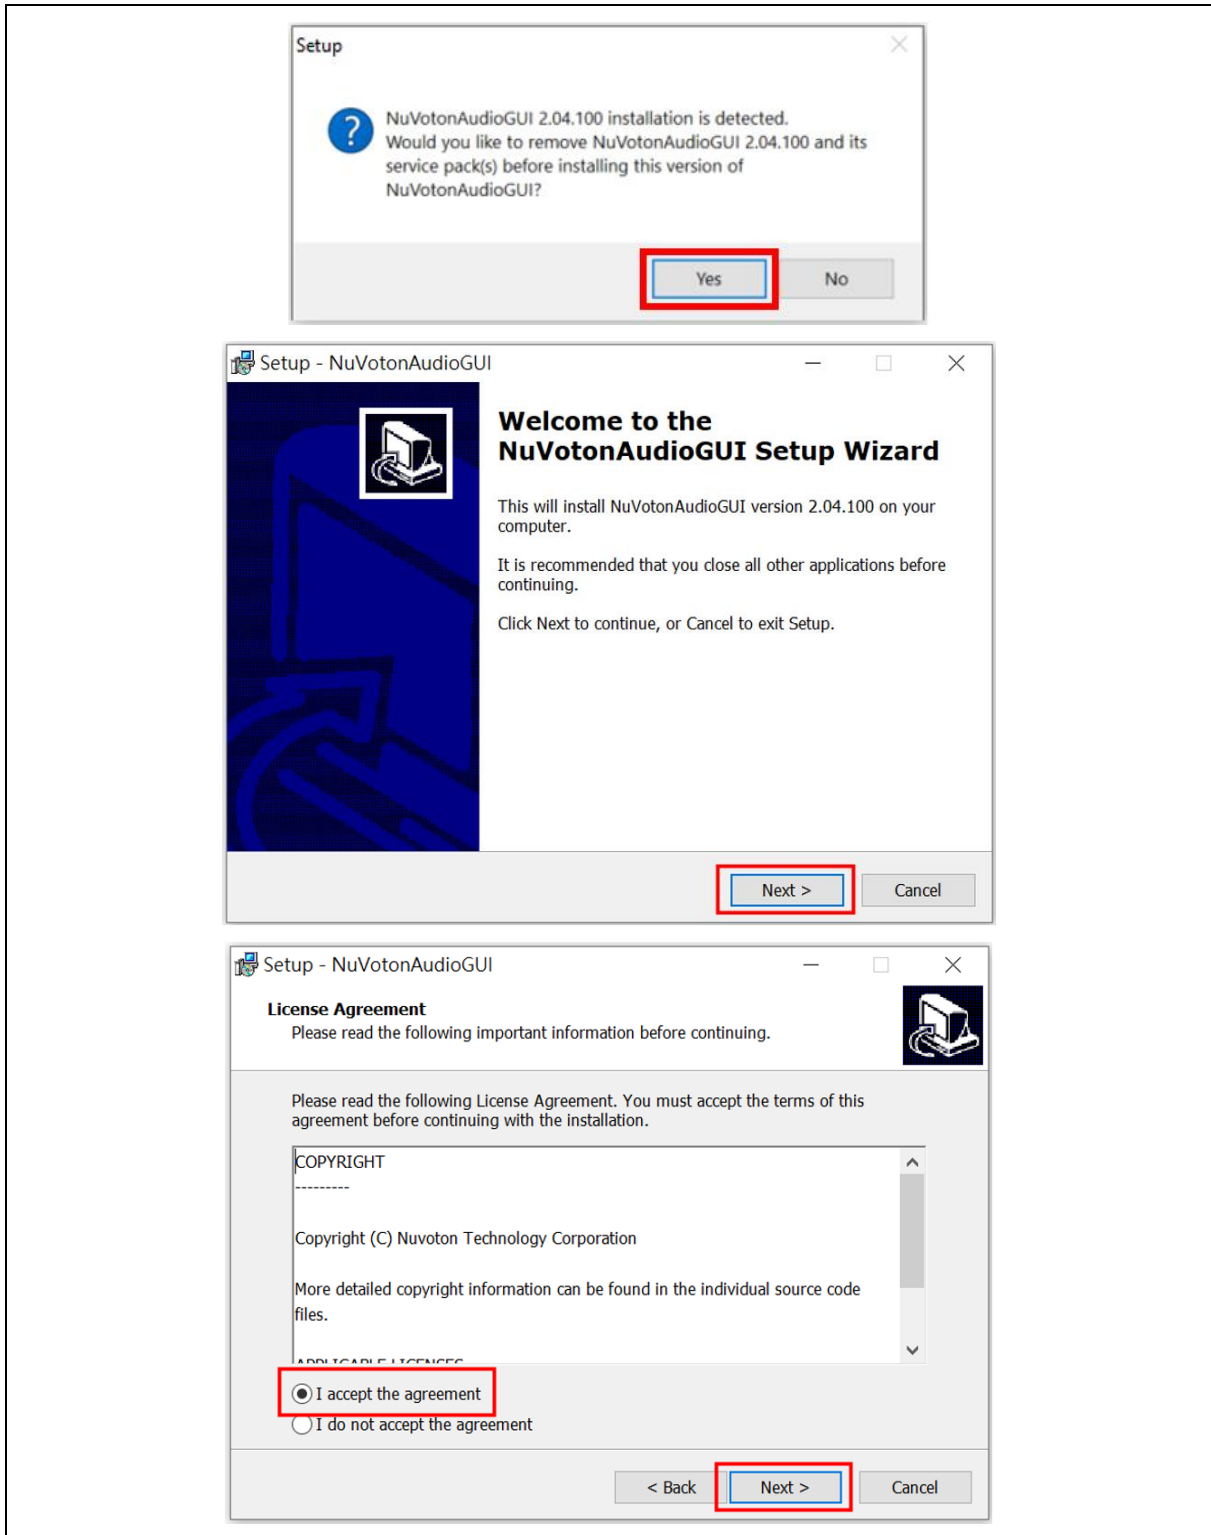
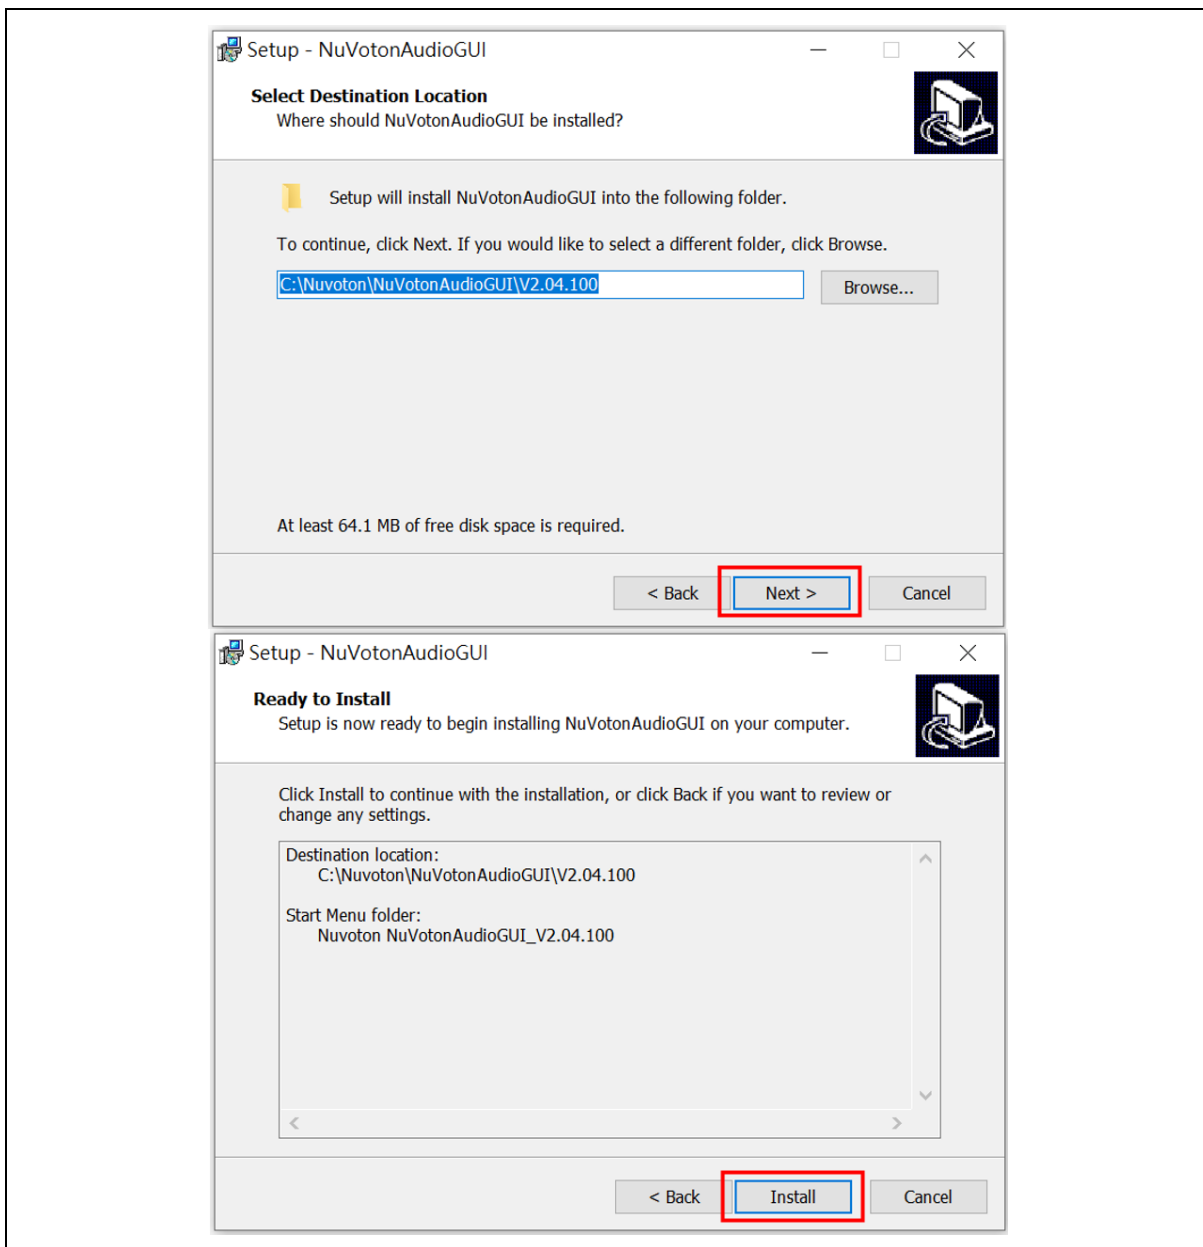

Figure 3-2 NuVotonAudioGUI Installation Step (2)
Figure 3-3 NuvotonAudioGUI Installation Step (3)
2. Install the NuvotonAudioGUI. The installation steps are shown in Figure 3-2 and Figure 3-3.